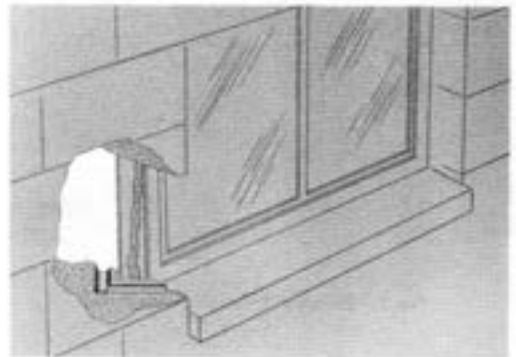

Fig. 1—Entrance at Metal Window Frame
- (b) When metal window frame is set in masonry or bricks, enter as shown in Fig. 1.